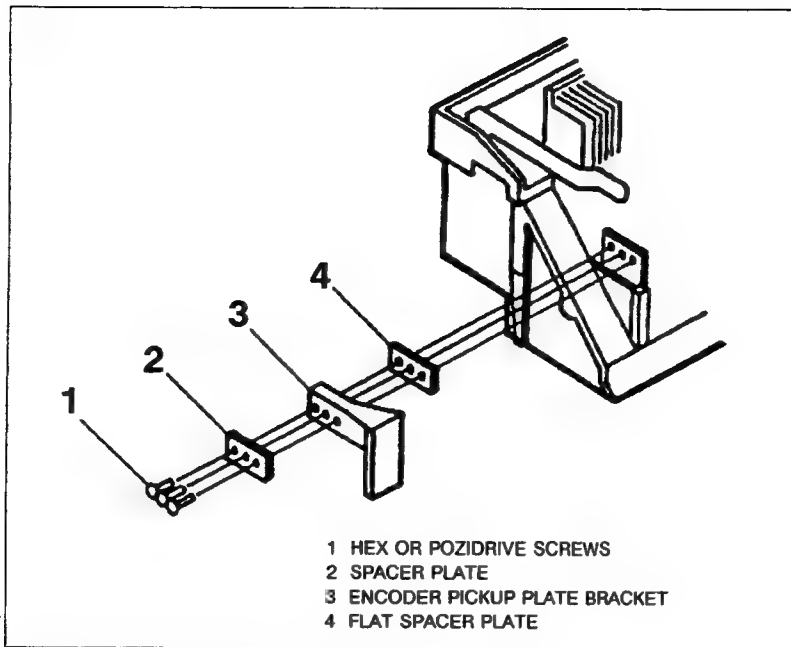

Figure 6-11. Print Mechanism (Left End View)
- e. At the left-end of the print bar remove the following in the order listed (see Figure 6-11):